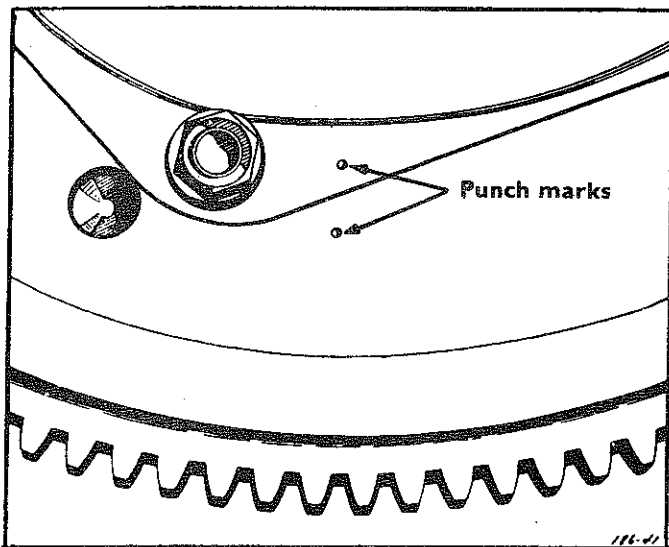

Fig. 1—Punch marks on clutch cover and flywheel
- (1) Remove the transmission.
- (2) Mark the clutch cover and flywheel (see fig. 1) to ensure that the cover and flywheel will be correctly matched in assembly.
- (3) Loosen the clutch cover retaining bolts diagonally one by one and then remove the cover and clutch disc assembly.